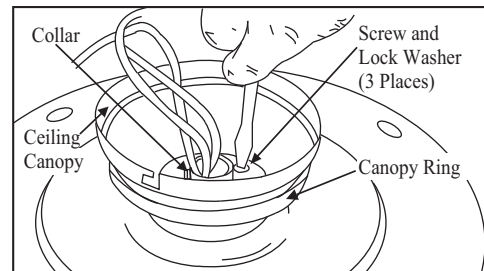

Figure 10
5. Route the wires exiting the top of the fan motor through the canopy ring (make sure the slot openings are on top). then proceed to place the ceiling canopy over the collar at the top of the motor. (Figure 10)
6. Align the mounting holes with the holes in the motor and fasten using the screws and lock washers removed in step 4 (Fig. 10).